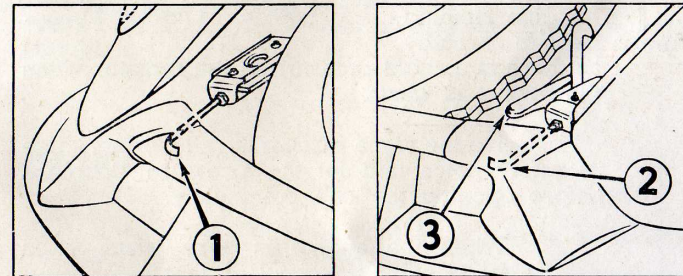

Figure 1
- Release the right and left hood safety catches by passing both hands through the opening in the bumper on each side of the license plate and pull handles **1** and **2** (fig. 1).
- Lift the hood slightly with your left hand and release it completely by passing your right hand between the hood and the bumper, on the right-hand side of the license plate, then press lever **3** (fig. 1).